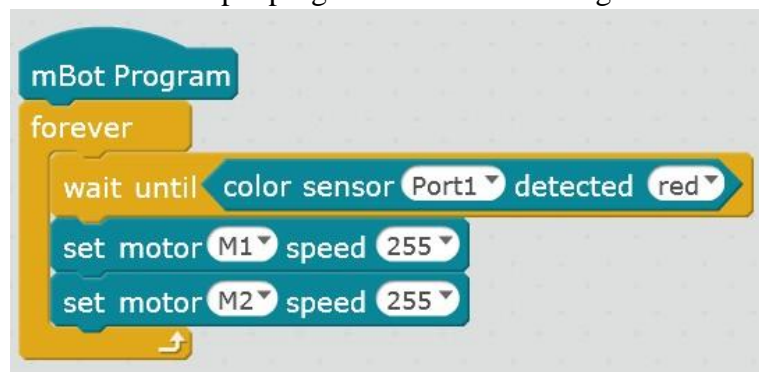

Figure 6: mBot starts to move when LED module displays the color collected by the Color Sensor
(3) When the LED module displays the color collected by the Color Sensor, mBot starts to move and the example programs are shown in Figure 6.